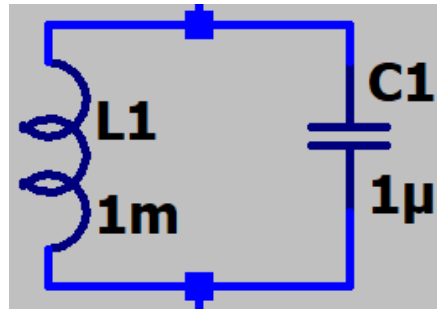

Fig. 4. The tank circuit
The resonant frequency of the given class C amplifier is determined by the inductor (L) and capacitor's (C) values, the parallel LC circuit is commonly known as the tank circuit (see Fig. 4).